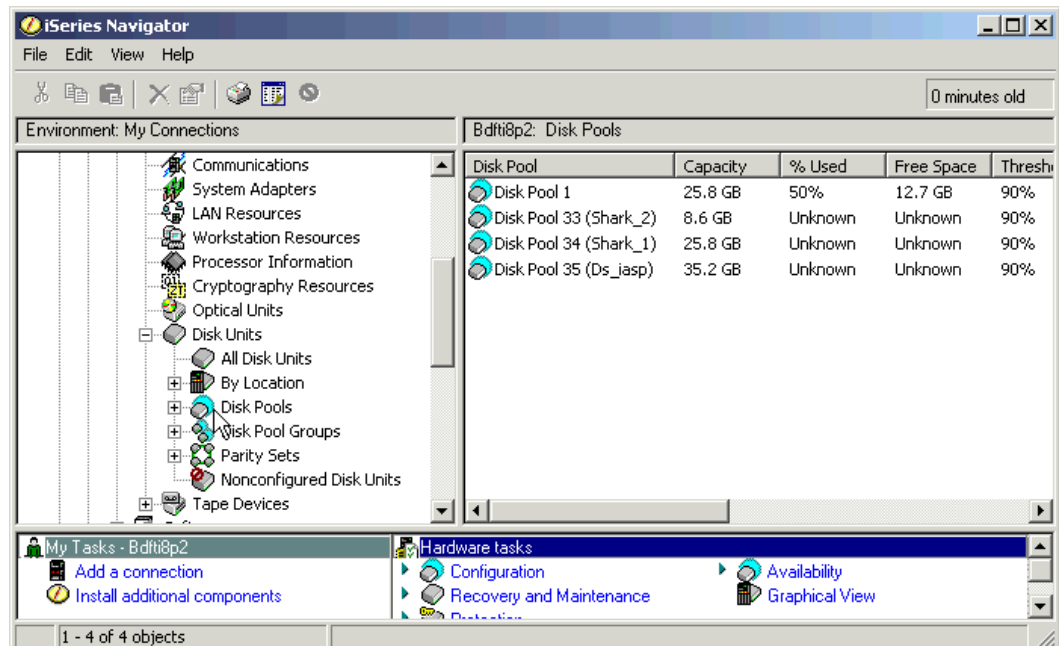

Figure 18-18 New Disk Pool shown on System i Navigator
- The new Disk Pool can be seen on System i Navigator **Disk Pools** in Figure 18-18.